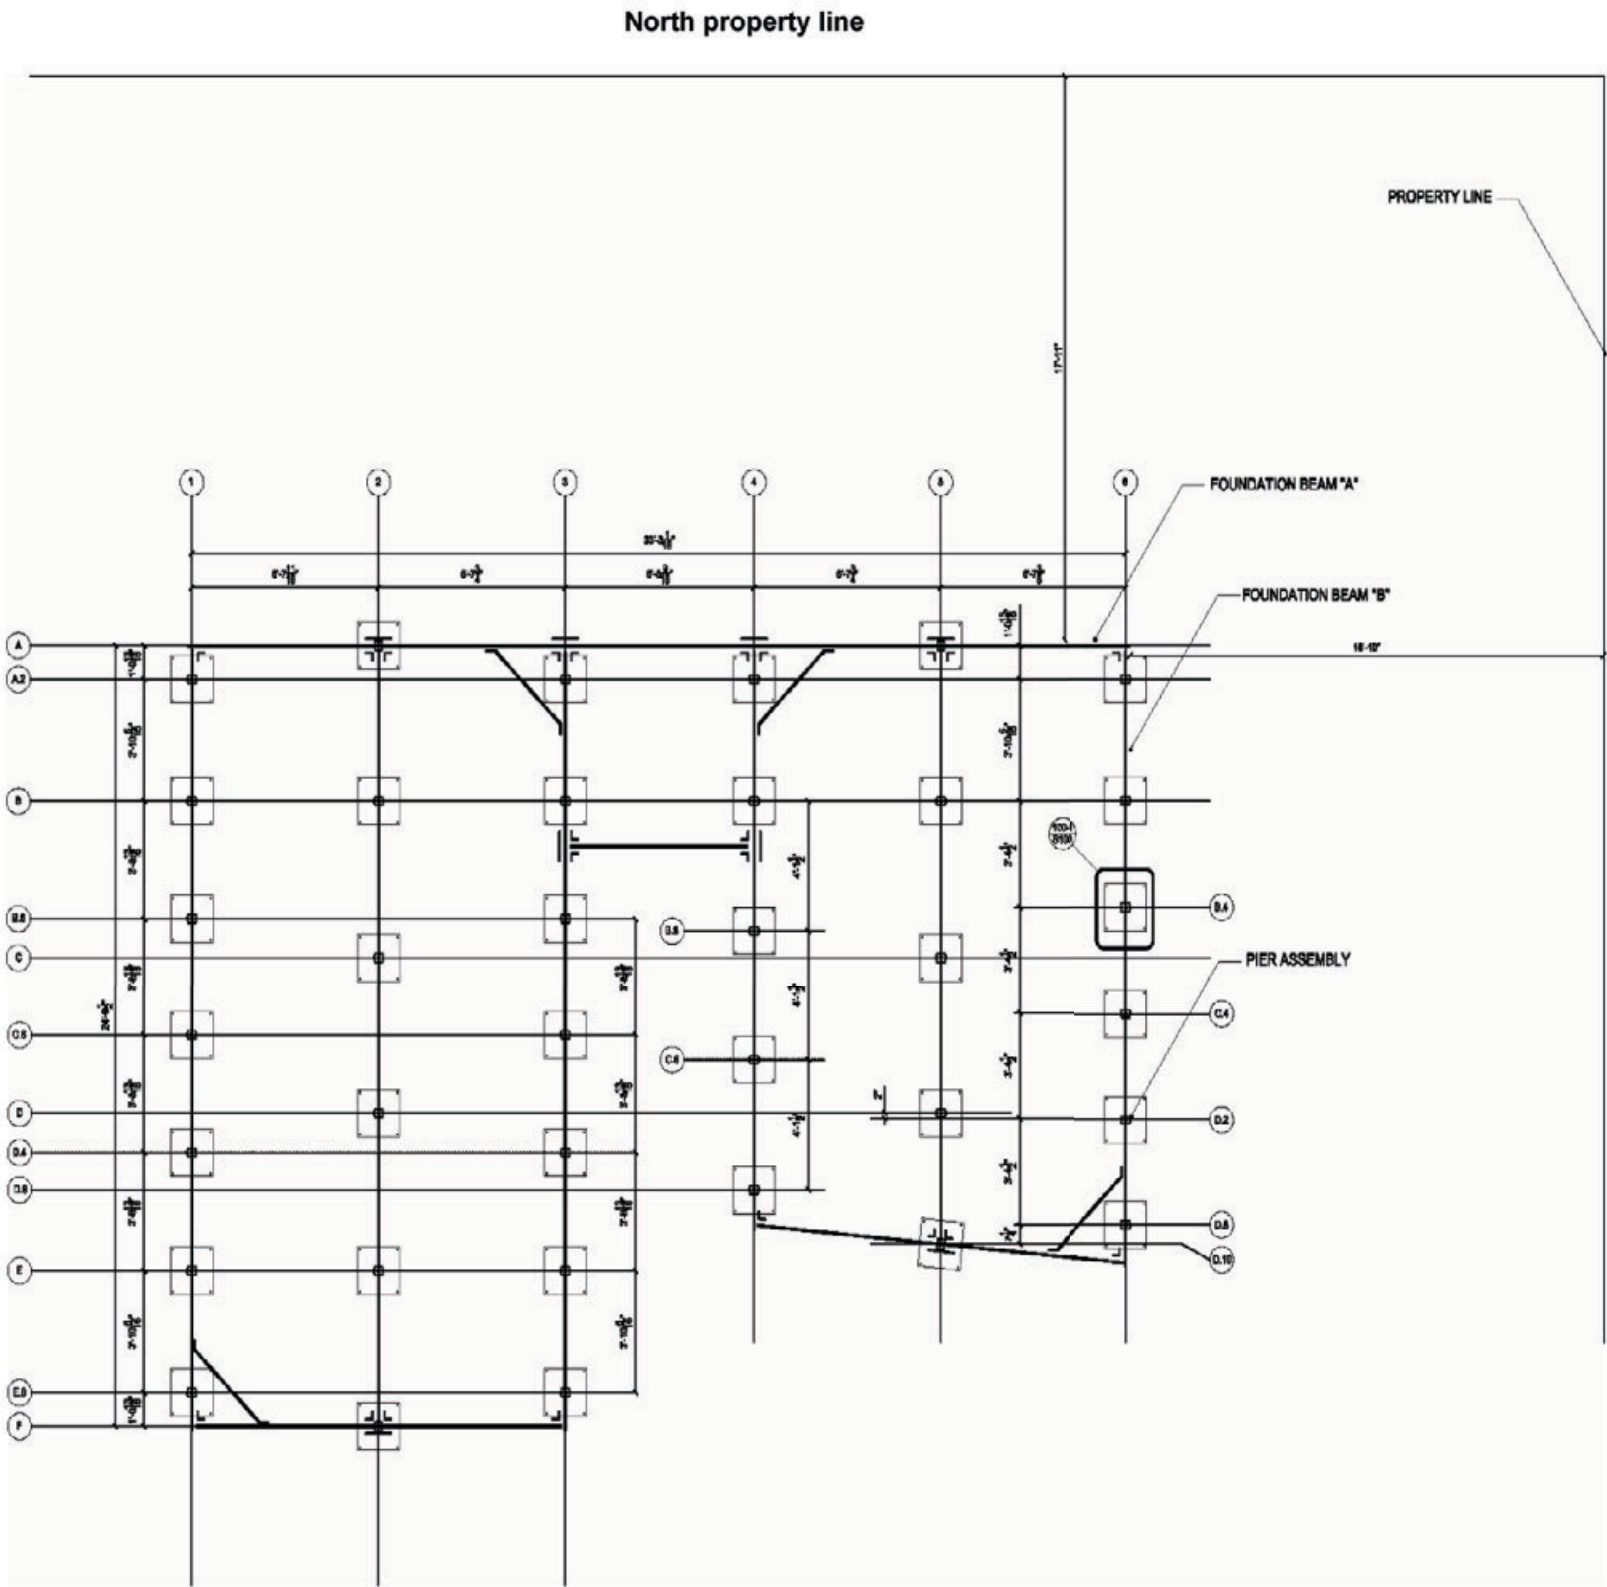
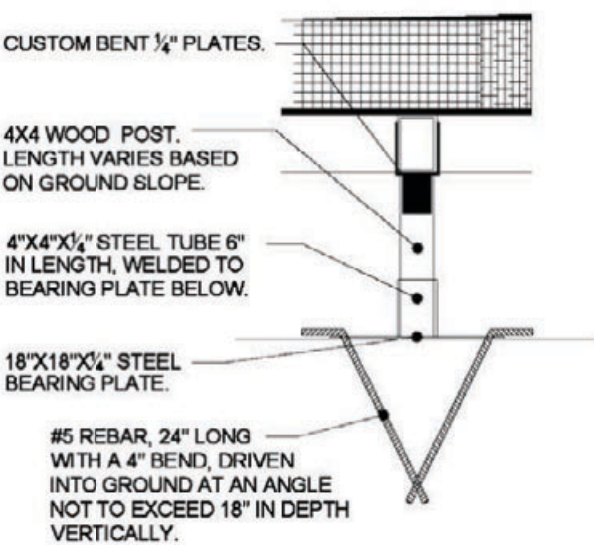

Figure 1: Washington DC Site Location
Figure 3: Pier Assembly
For the competition in Washington DC, measure off of the northern property line to beam "A" 17' x 11". Next measure off of the east property line to beam "B" 16'-10" (see Figure 1). Mark both of these distances with lines parallel to the property line.
Begin the foundation installation at beam "B" shown in Figure 1. Construct a pier by using the found top of foundation beam height, begin cutting the 4 x 4 wood posts to support the foundation beams to conform to grade elevations maintaining a level top of foundation beam. Insert a post into the sleeve welded to the bearing plate and secure with two (2) 1/2" x 7" through bolts. At the top of the 4 x 4 post install a bent bracket and secure with two (2) 1/2" x 7" through bolts (see Figure 3). Repeat this process at each of the 36 pier locations. Temporarily support the piers with 2x4 kickers. Insert the beams and fasten to the bent brackets with two (2) 3/4" x 7" through bolts, do not tighten. Level both vertically and horizontally. Note shims may be required to achieve proper alignment, and check for square. All bolts now can be fully tightened.